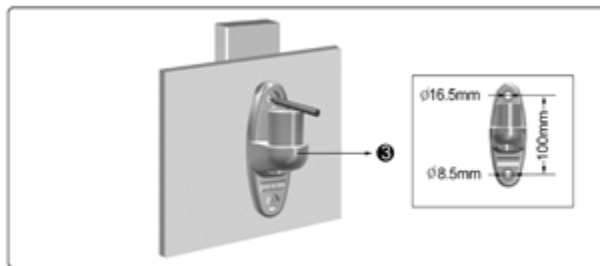

Figure 1
1. Hold the Wall Plate (3) in the desired location on the wall and mark pilot holes with a pencil.. (See Figure 1)